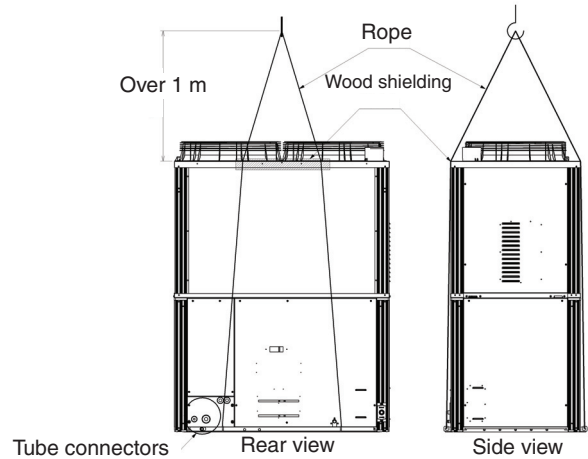

Fig. 14
- For hoisting, pass the rope over the hoisting brackets on the unit vase at 4 locations. (Fig. 14)
- Insert wood separators as protective shielding when using the hoist to prevent the outer casing from being scratched or deformed by the rope. Be sure not to touch or apply pressure on tube connectors. (Fig. 14)